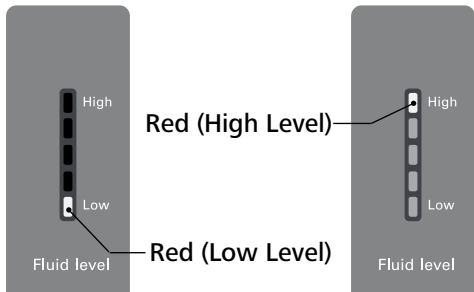

Fig. 7
- The low level warning message appear on the display. Meanwhile, the bottom LED segment of fluid level indicator lights up in red color to indicate the low fluid level (see Fig. 7).